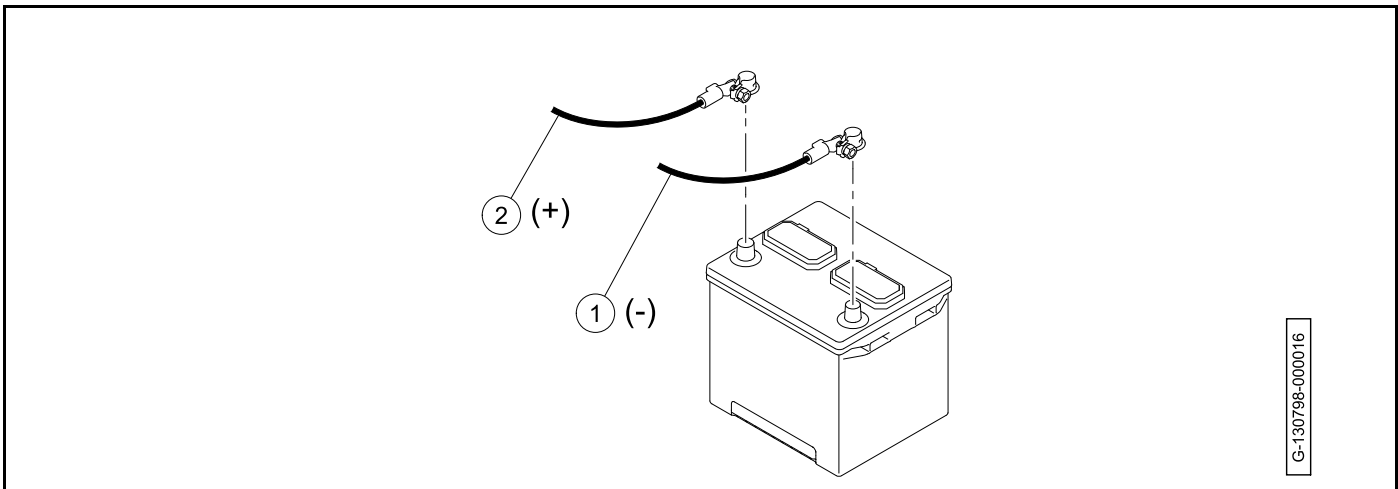

Figure 1-1 Gasoline Vehicle Battery
2. Disconnect the negative (-) cable (1) (Figure 1-1, Page 1-4).
1. Connect the positive (+) cable (2) (Figure 1-1, Page 1-4).
2. Connect the negative (-) cable (1).